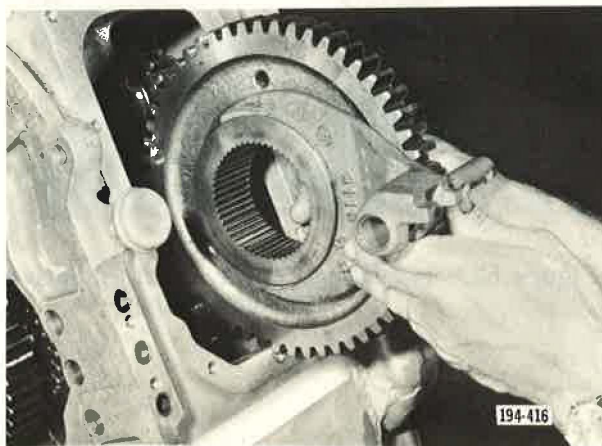

Figure 58. Installing Reverse Gear and Shifter Fork Assembly
2. Engage reverse speed shifter fork with groove provided in reverse speed gear. See Figure 58. Install reverse gear with shifter fork in case. Engage gear with the idlers and at the same time allow the fork to enter its bore at the rear of the case.